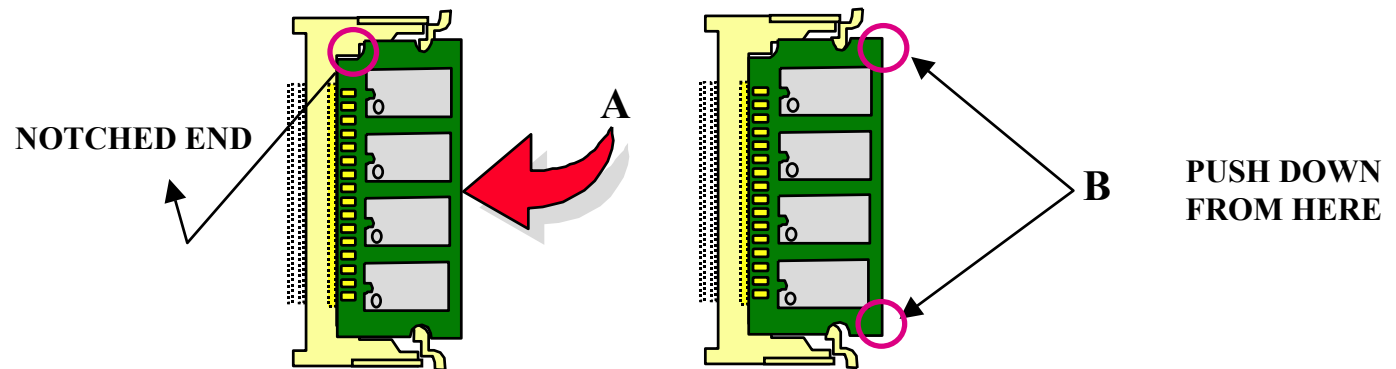

Figure 7-10-2 DIMM installation
3. To install the DIMM, align the DIMM's notched end with the socket's corresponding end and firmly insert the DIMM into the socket at an angle (Figure 7-10-2 Arrow A) Then push down (Figure 7-10-2 Arrow b) until the retaining clips lock the DIMM into position.